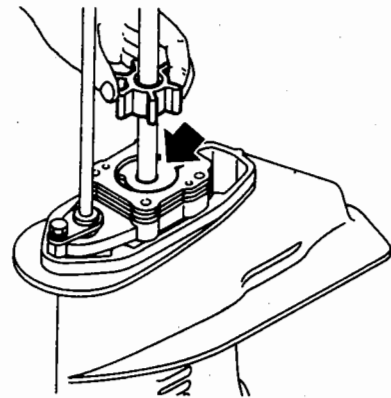

Fig.10.7
2. Remove the water pump impeller, pump impeller key, pump case gasket, water pump guide plate and pump plate gasket in this order. (Fig.10.7)